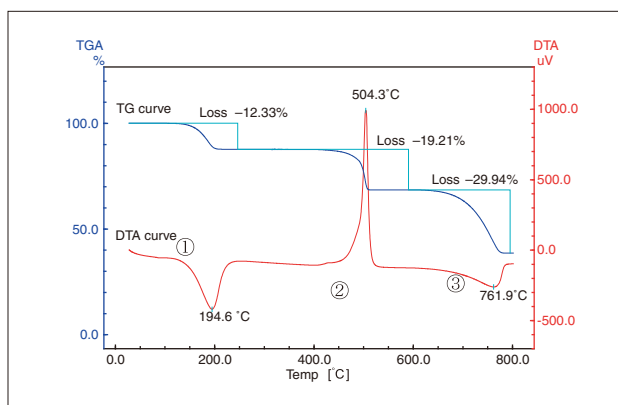
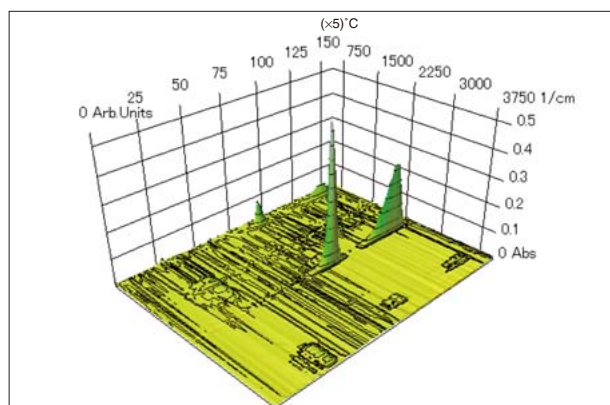
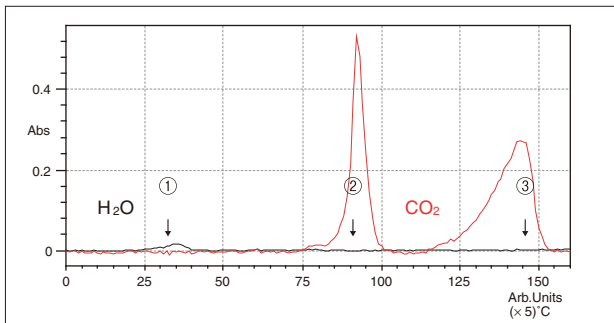
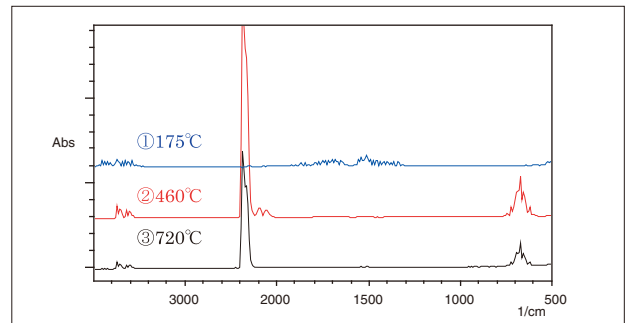

Fig.2 TG-DTA Curves of CaC₂O₄ in Air
Fig.3 3D Display of IR Spectra
Fig.4 IR Chromatograms Extracted from Fig.3
Fig.5 IR Spectra Extracted from Fig.4
Fig. 2 shows the TG-DTA curves when calcium oxalate monohydrate is heated at a rate of 20 °C/min. The 3-dimensional IR spectra are shown in Fig. 3. In addition, Fig. 4 shows the IR chromatograms of the change in absorbance plotted on the time axis at the absorption wavenumbers 2361 cm⁻¹ and 1508 cm⁻¹, corresponding to CO₂ and H₂O, respectively. Fig. 5 shows the spectra extracted at ① 175 °C, ② 460 °C, and ③ 720 °C from Fig. 4. From this, it can be seen in Fig. 2 that H₂O is volatilized at about ① 175 °C, the formation of CO and oxidization of CO₂ are observed in the vicinity of ② 460 °C, and the generation of CO₂ is observed at about ③ 720 °C.